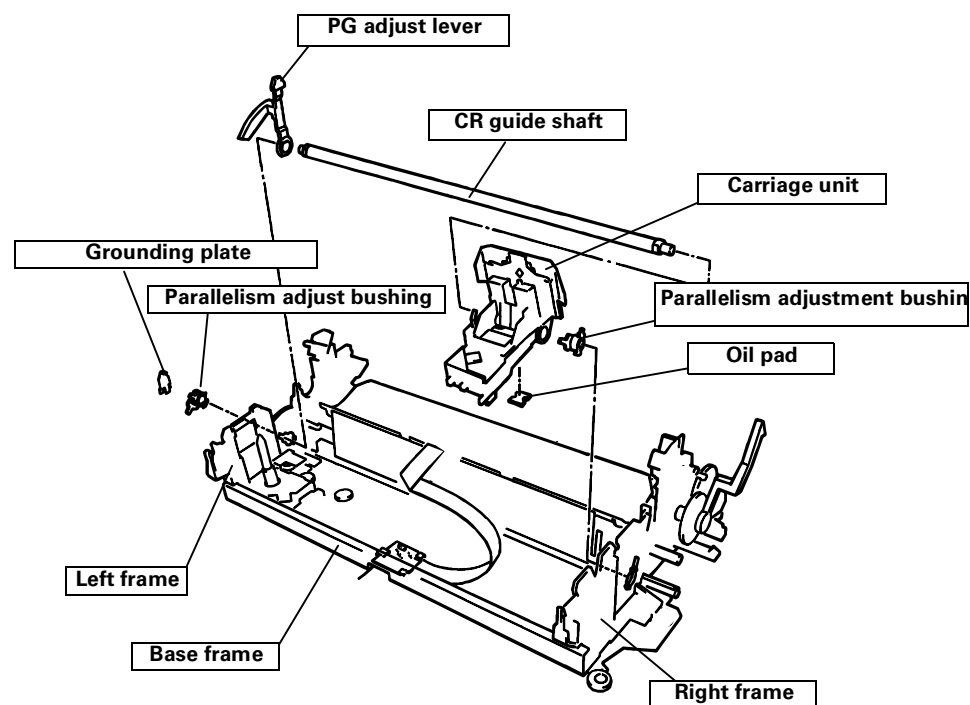

Figure 4-13. Carriage Removal
2. Remove the grounding plate on the left side of the printer, as shown in Figure 4-13.